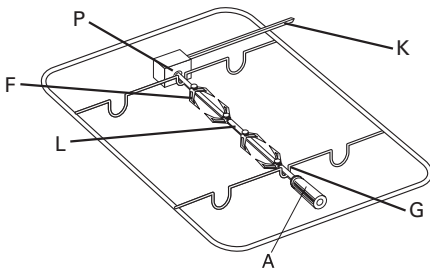

fig. 8 - NF925
- Put the food on the spit (L) and secure it so that it is firmly attached and evenly distributed using the hooks (F). See fig. 8.
- Push the rotary spit into the opening (P) of the coupling and lay it at the front in the hook (G).
- Slide the rack with grill spit into the oven. Ensure that the drive shaft (K) falls into the opening of the grill motor.